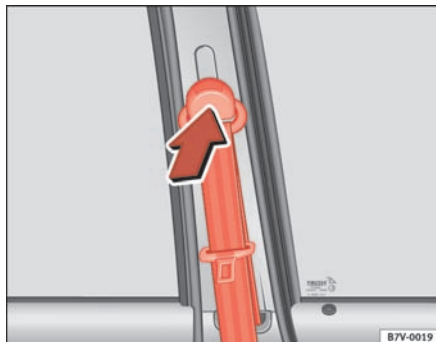

Fig. 15 Location of the belt height adjuster
- Press the upper part ⇒ **fig. 15** of the shoulder belt guide in the direction of the arrow and hold it in this position.